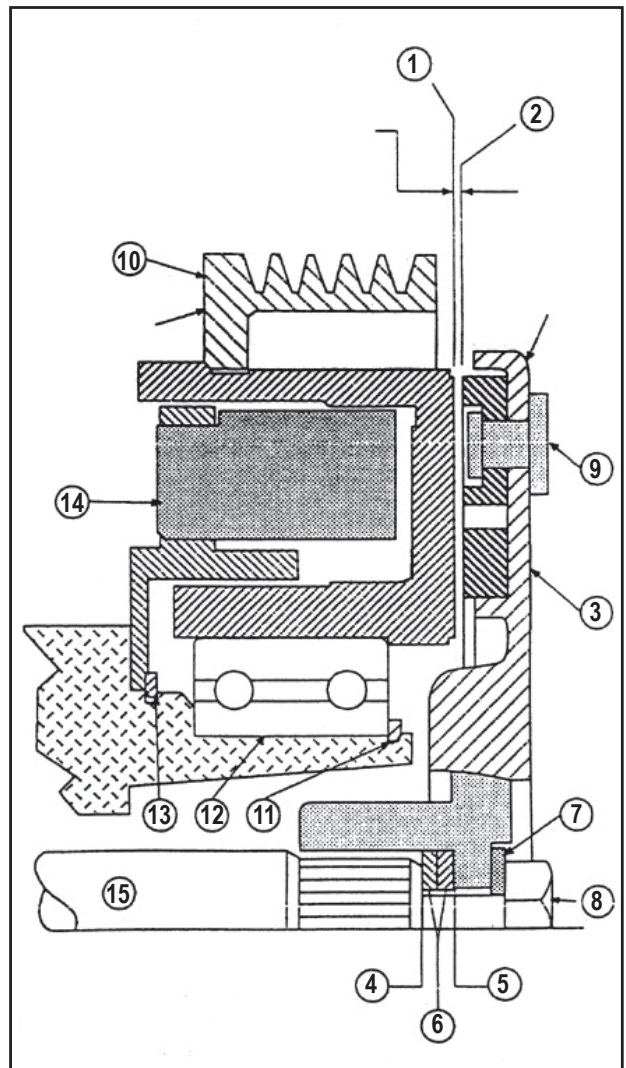
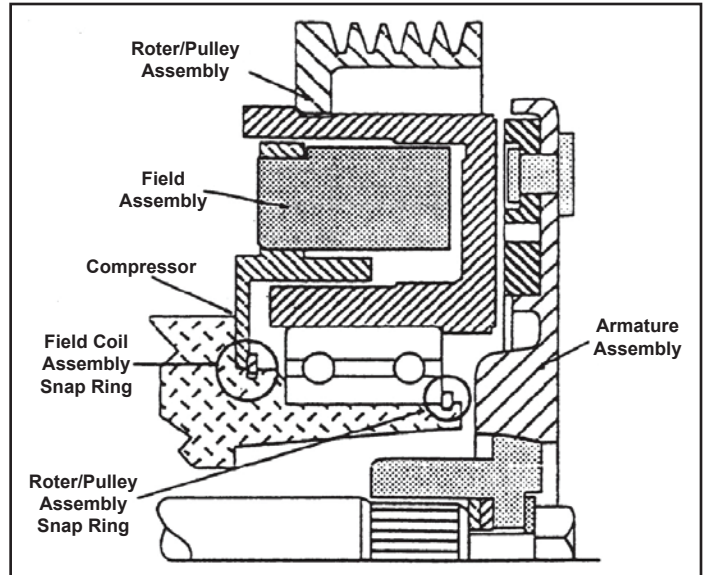
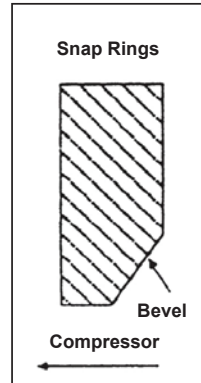
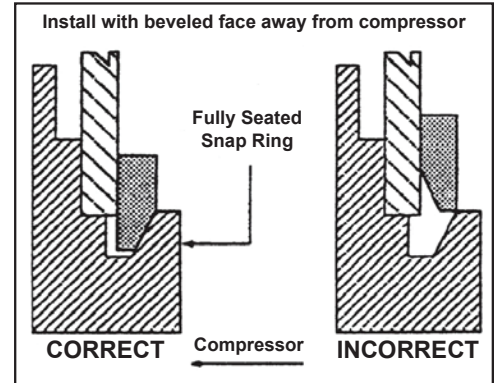

Figure 1. Clutch Components
Figure 2. Location of Clutch Snap Rings
Figure 3. Snap Ring Bevel
Figure 4. Correct and Incorrect Installation
COMPRESSOR CLUTCH REMOVAL (Refer to figure 1 for clutch diagram)
Step 2: Removing Hub/Armature Assembly (Shown in figure 1, number 3)
- Remove shall bolt (Shown in figure 1, number 8)
- Remove washer (Shown in figure 1, number 7)
- Remove hub/armature by hand. Clutch has an 8mm threaded hole to use as a jack screw for removal. (Shown in figure 1, number 3)
- Remove shims from the hub/armature assembly. The number of shims can vary. (Shown in figure 1, number 6)
Step 3: Removing Rotor/Pulley Assembly (Shown in figure 1, number 10)
- Remove rotor/pulley snap ring (Shown in figure 1, number 11)
- Slide rotor/pulley assembly (Shown in figure 1, number 10), off the compressor nose (Shown in figure 1, number 12). If rotor/pulley assembly is hot it will not slide, DO NOT FORCE! Allow the clutch to cool and then proceed.
Step 4: Removing Field Coil Assembly for all compressors except Ford FX15 (Shown in figure 1, number 14)
- Remove field coil snap ring (Shown in figure 1, number 13), retaining the field coil.
- Slide the field coil (Shown in figure 1, number 14), off the compressor housing.
Step 5: Removing Field Coil Assembly for Ford FX-15 only (Shown in figure 1, number 14)
- Insert two pry tools between the rear of the field shell (Shown in figure 1, number 14), and the compressor housing. These tools should be spaced 180 degrees apart. Do not locate pry tool on terminal connector.
- Gently pry the field coil (Shown in figure 1, number 14), off the compressor housing.
- Check mounting surfaces (Shown in figure 1, number 12), for nicks, burrs and scratches. See figure 1. Smooth with a file or emery cloth if necessary. If severe wear that affects field pilot or rotor bearing fit is evident, the compressor must be replaced.
Step 2A: Installing the Field Coil for all fields except Ford FX-15 (Shown in figure 1, number 14)
- Align the anti-rotation pin in the back plate of the field coil (Shown in figure 1, number 14), with the hole in the compressor housing. Guide the field coil assembly into the installed position. Make sure that the lead wires are routed directly to the retaining clip on top of the compressor, if applicable.
- With snap ring pliers, spread the field coil snap ring (Shown in figure 1, number 13), and insert it into the groove on the compressor nose. See figure 2. To assure assembly retention, the ring bevel must face away from the compressor. See figure 3 and figure 4.
- Verify that the snap ring is fully seated in the groove around its circumference to assure assembly retention. See figure 4.
Step 2B: Installing the Field Coil for all Ford FX-15 fields. (Shown in figure 1, number 14)
- Stand the compressor on end with the nose pointing upward. Position the field assembly (Shown in figure 1, number 14), such that the field shell starts to overlap the compressor nose field mounting surface.
Step 3: Installing the Rotor/Pulley Assembly \(Shown in figure 1, number 10\)
- a. Install the rotor/pulley assembly \(Shown in figure 1, number 10\) onto the compressor \(Shown in figure 1, number 12\). If the rotor/pulley does not slide easily, check the compressor nose for nicks or burrs and remove them. If the rotor/pulley still does not slide on easily, rock the rotor/pulley back and forth by hand until it slides completely onto the compressor \(Shown in figure 1, number 12\).
- b. Make sure there is no interference between the field assembly \(Shown in figure 1, number 1\) or leadwires and the rotor/pulley \(Shown in figure 1, number 10\).
- c. With snap ring pliers, spread the rotor/pulley snap ring \(Shown in figure 1, number 11\) and insert it into the groove on the compressor nose per figure 1. To assure assembly retention, the ring bevel must face away from the compressor. See figure 3 and figure 4.
- d. Verify that the snap ring is fully seated in the groove around the circumference to assure assembly retention. See figure 4.
Step 4: Installing the Hub/Armature Assembly \(Shown in figure 1, number 3\)
- a. Slide the Armature assembly \(Shown in figure 1, number 3\), onto the compressor shaft \(Shown in figure 1, number 15\).
- b. Set the rotor/pulley \(Shown in figure 1, number 1\) to hub/armature \(Shown in figure 1, number 2\) air gap to .018 to .030 inches by adding or removing shims \(Shown in figure 1, number 6\). Measure using a feeler gauge at 3 locations 120 degrees apart. See figure 1. Should a used clutch be installed, set the rotor/pulley \(Shown in figure 1, number 1\) to hub/armature \(Shown in figure 1, number 2\) airgap to .013 to .025 inches.